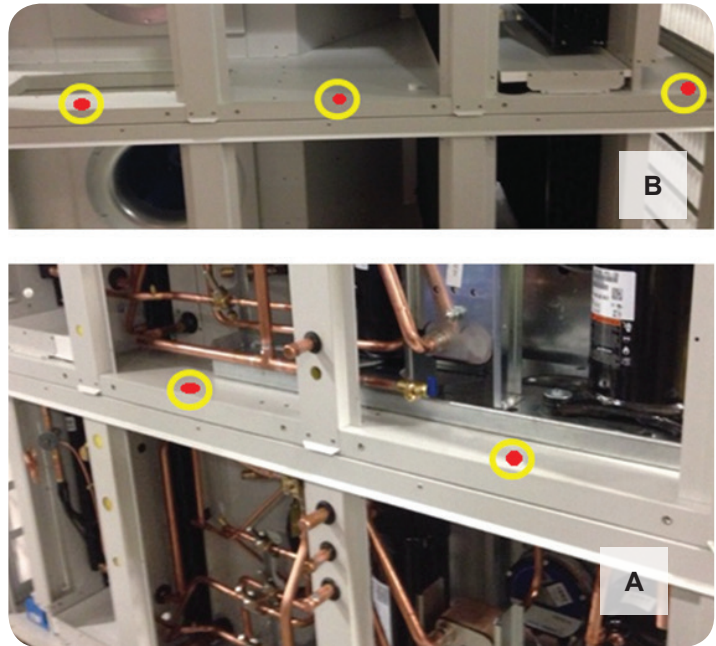
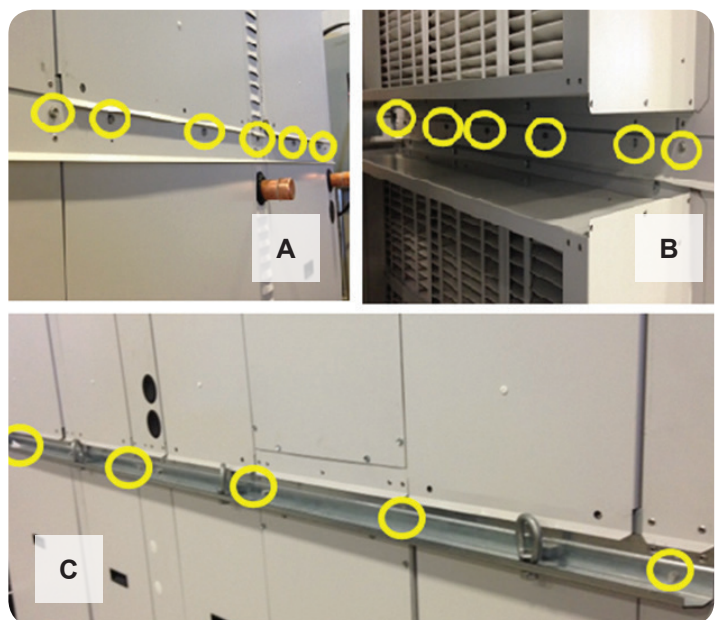

Figure 10. StakPak PCP0808 - PCP5050, Top Deck Attachment
Figure 11. StakPak PCP3030 - PCP5050, Deck Attachment
- PCP0808 – PCP5050 indoor models: decks attached with 6 to 8 screws through the top deck floor and bottom deck roof (see Figure 10):
- ▶ Locate the plastic covers/plugs at the front (A) and back (B) of the dehumidifier and pop them open to access screws;
- PCP3030 – PCP5050 indoor/outdoor models: decks attached with side joining and lifting strips (see Figure 11):
- ▶ Locate and remove all screws on joining strips between the top and bottom decks — on the front (A) and back (B) joining strips and on the lifting bracket strips (C) on the sides of the dehumidifier.